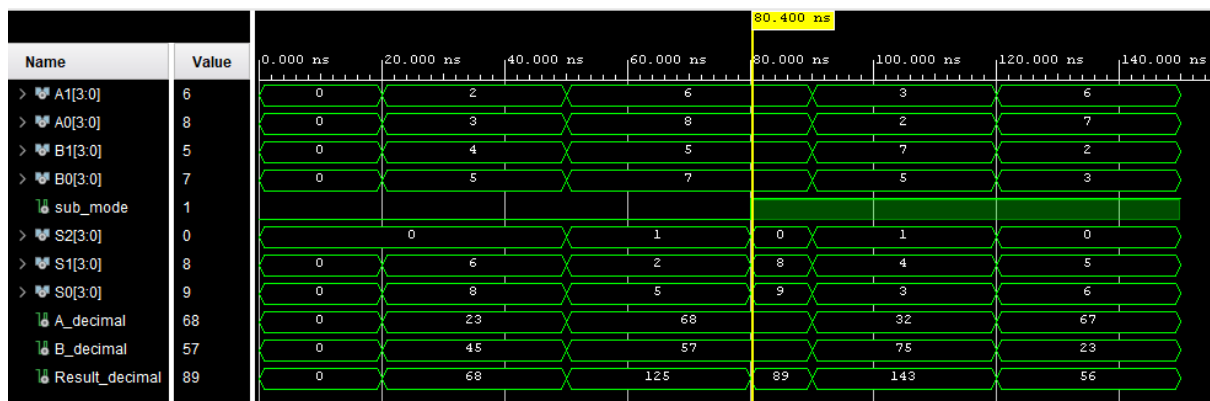

Figure 4 Simulation results
- (i) **Adder, $P > Q$:** $45+23=68$ (Fig. 4, 20–40 ns)